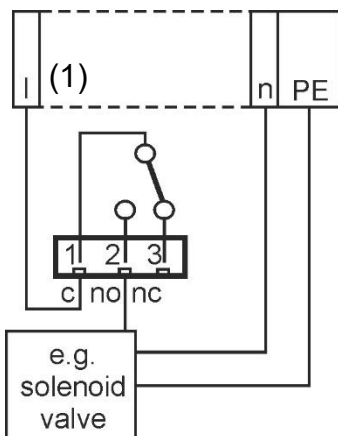

Figure 12
To connect the cable, proceed as described below. Use Figure 12 as a guide.
- If the system components require mains power, connect the external switched mains voltage (I) to the root contact (1) of the respective relay (see connection example in figure 12).